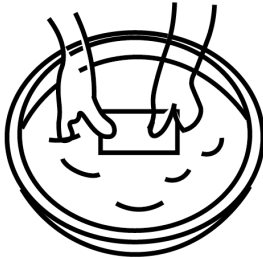

Figure 21
- Carefully wash the filter in lukewarm soapy water, Fig. 21.